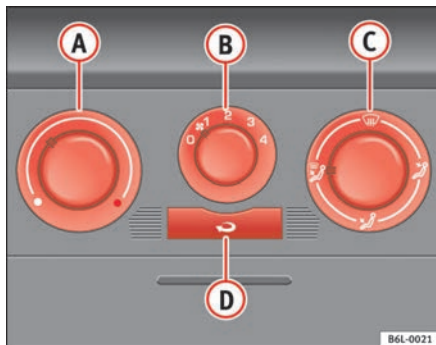

Fig. 91 On the dash panel: Heater controls
- Using the controls ⇒ fig. 91 **A** and **C** and with the switch **B** you can set the temperature, air distribution and the blower speed.